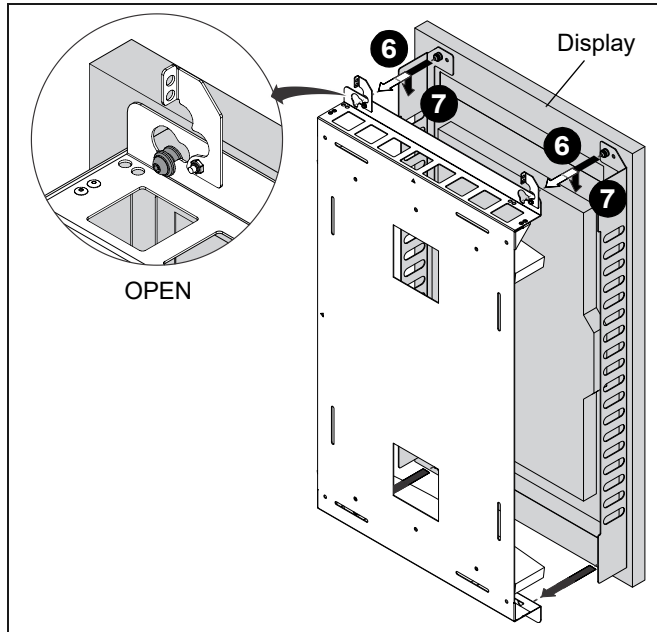

Figure 5
5. Align mounting buttons on display with teardrop mounting holes in mount. (See Figure 5)
6. Move display forward until recessed area of mounting buttons is positioned over lower area of teardrop mounting holes. (See Figure 5)